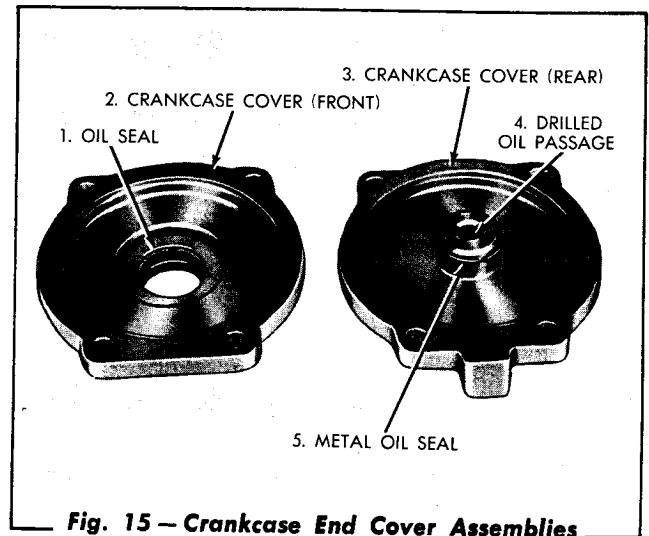

Fig. 15 — Crankcase End Cover Assemblies
2. Install a new metal oil seal ring in the rear end cover (Fig. 15). Using a new gasket, install the end cover. Secure it to the crankcase with the capscrews and lockwashers.